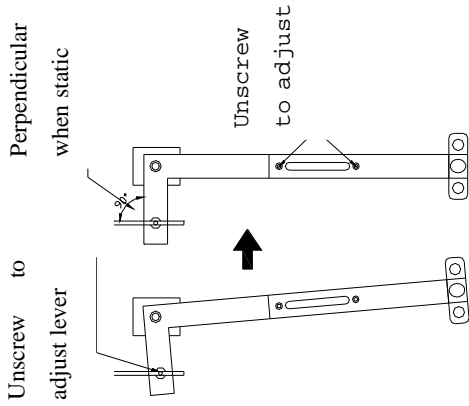

Fig.5: Adjust Width and Height of Pedal Lever
1. Adjust the angle and height of pedal lever (See Fig.5):